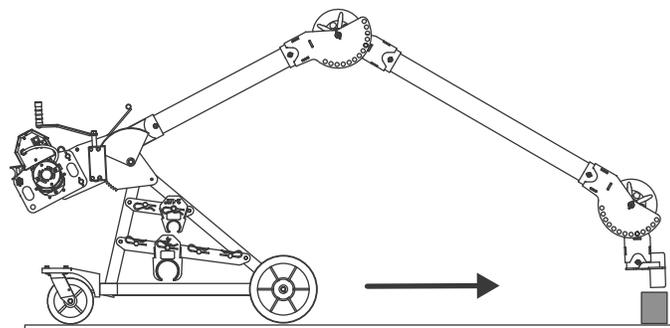

Figure 17: Move Nose to Conduit
10. Release breaks and move towards conduit until conduit adapter is above the opening. (Fig. 17)